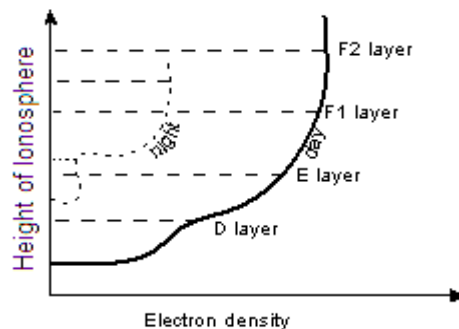

Fig.1.41 Variation of electron density in various layers of ionosphere
- ❖ The ionization density varies with height as shown in fig 1.41.